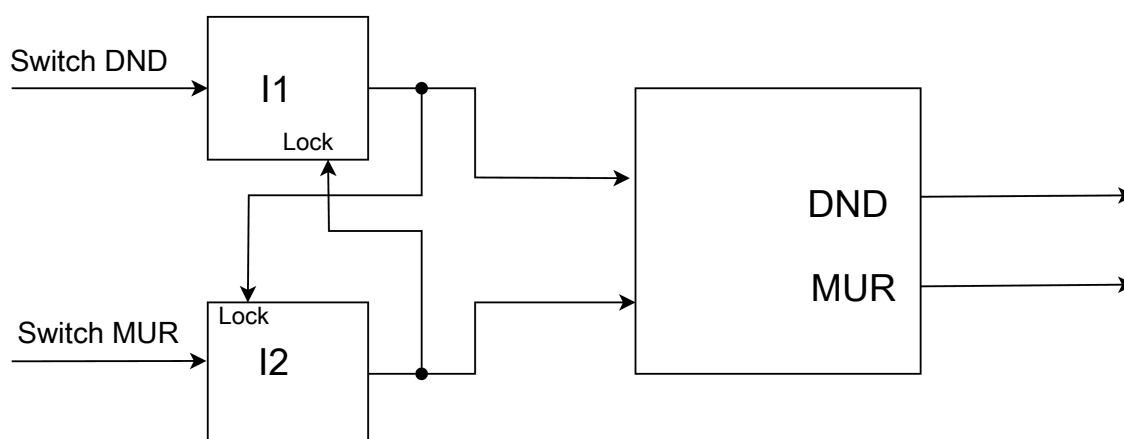

Figure 10: Realisation DND/MUR with mutually interlocked switch
- Activate the disabling function of the two extension inputs. The parameter "At the start of disabling" should be parameterised to "No reaction" and the parameter "At the end of disabling" to "Send current status". Cross-link the output objects of the extension inputs via group addresses with the input object for blocking the other extension input (see figure 10).